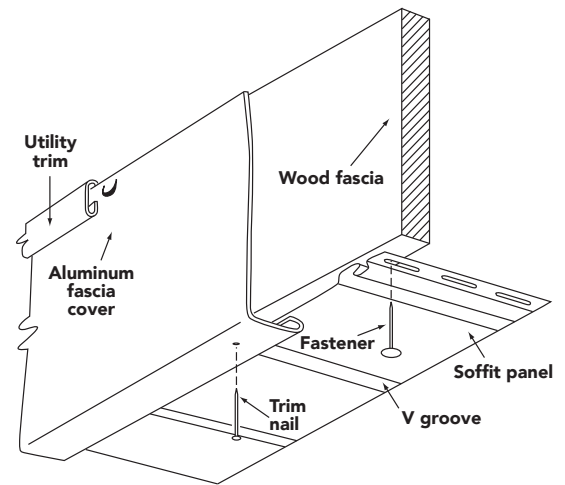

Figure 66
- The fascia covers can be installed into utility trim (either factory-formed or field-fabricated) (Figure 66) or behind the existing drip edge. The fascia has to be fastened with aluminum or stainless steel painted trim nails into the bottom leg, no more than 24" (610mm) on center.
- Drive these nails through the fascia and only into the "V" groove of the soffit (Figure 66).